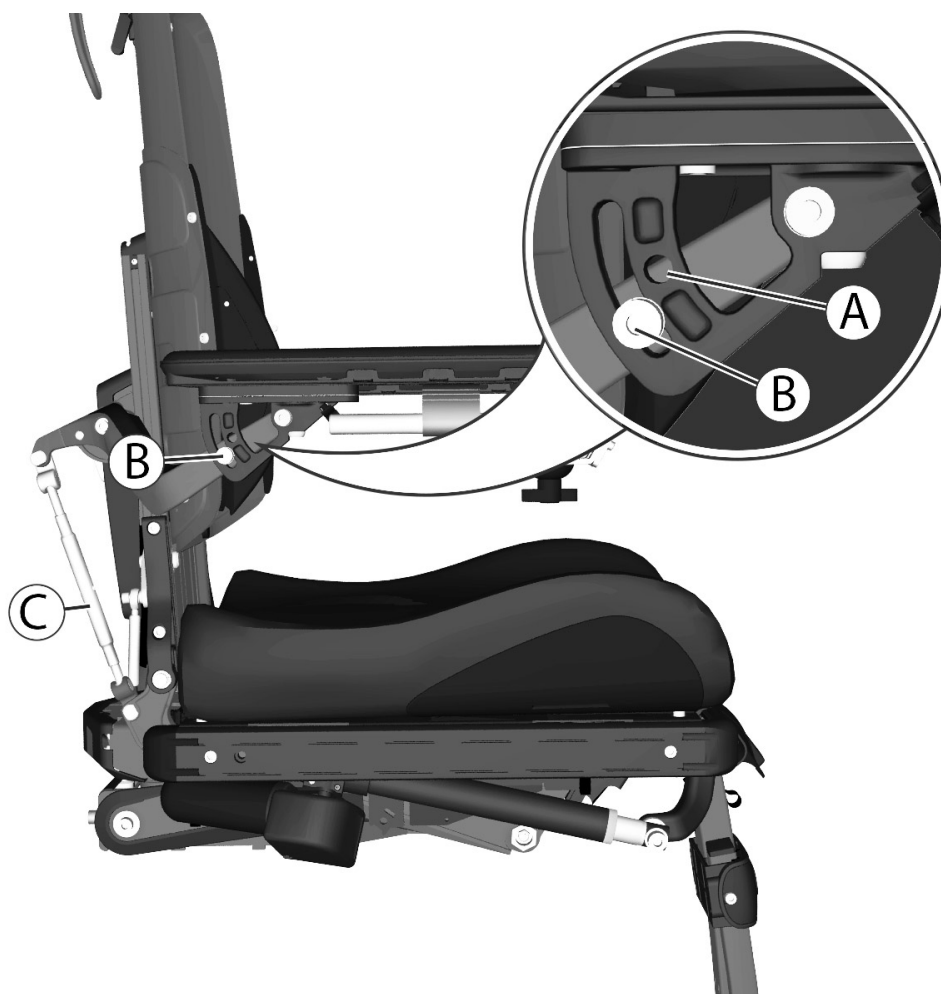

Figure 258. Individual adjustment of the armrest height and angle.
1. Adjust the armrest height by turning the adjustment bars (C). See fig. 258.
2. The angle of the armrest is secured using a screw. Move the screw from a fixed position (A) to a flexible position (B). See fig. 258.
3. Adjust the armrest to the required angle and secure by tightening the screw. See fig. 258.